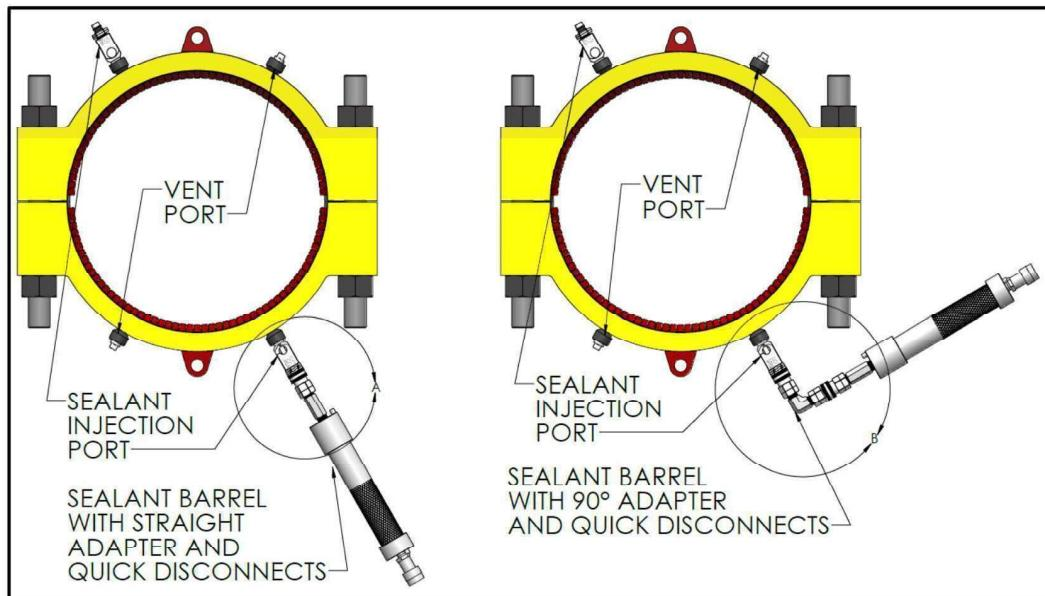

Figure 5
4. Connect a sealant barrel to the closed sealant injection port on the bottom or farthest injection port away from the active leak. If clearances are an issue, use the 90-degree adapter and/or the flexible hose adapter. (See Figure 5) Start to inject sealant into the closed sealant injection port.
Figure 5 exploded